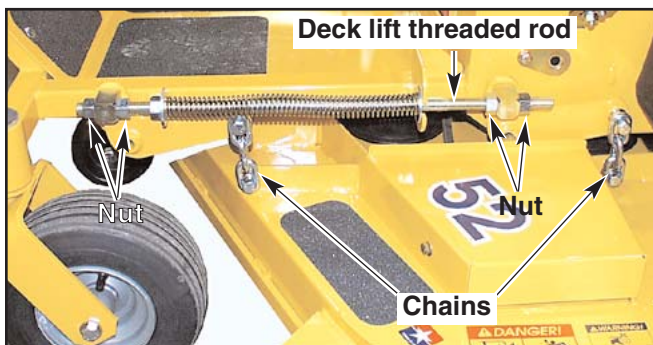

Figure 9-36
6. Loosen all nuts on the deck lift threaded rods, and the hardware on the adjuster (on the right front), until **all** the deck lift chains are loose, **and** the deck is sitting tightly on all four blocks. Fig. 9-36, 9-37, 9-38
24. Make sure that there is still slack in the chain. If not, loosen the two nuts on the block holding the threaded rod until there is slack in the deck lift chain. Fig. 9-36